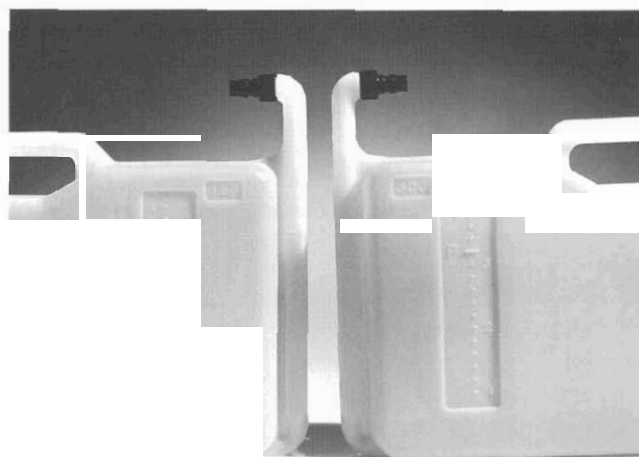

Figure 2-5
3. Examine one of the bottles for the line of graduation marks and letters molded into each side. The markings on the right side of the bottle are specific for the E300 models; those on the left side are for the E150 models (Figure 2-5). The "P" designates "Processing" volumes (2.2 L for the E150 models; 3.2 L for the E300 models); the "C" designates "Cleaning" volumes (3.0 L for the E150 models; 4.0 L for the E300 models).